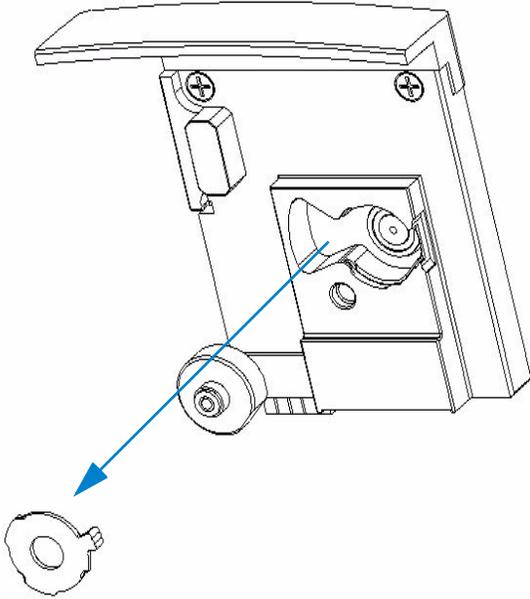

Figure 19 Releasing the pressure adapter
- 5 Pull the pressure adapter out of its mount, and replace it, as shown in Figure 19, “Releasing the pressure adapter”.